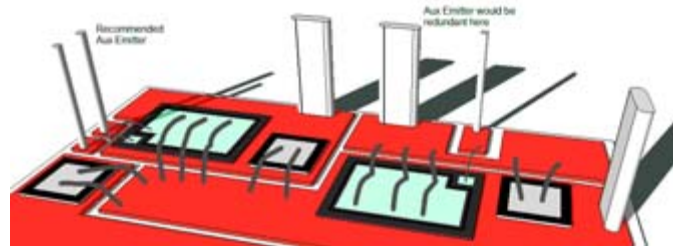

Figure 3: Example of a DCB layout with, and without, auxiliary emitter terminal
- Use auxiliary emitters, especially in DCB or IMS design, mainly for the top side IGBT. Figure 3 shows an example of DCB design which uses an auxiliary emitter on the top side IGBT.